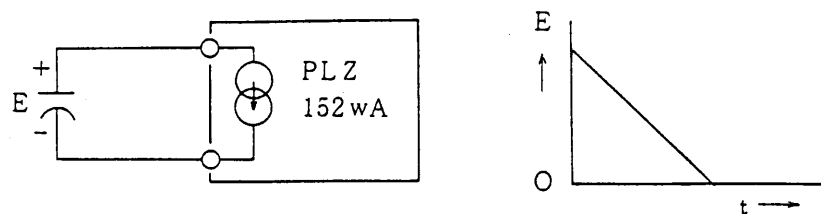

Figure 3-1-2
Figure 3-1-2 shows an example of constant current discharge test of a capacitor. The Load can draw a current down to zero volts of its input terminal voltage. Set the PRESET voltage (see Section 2.4 (1)) at zero volts.